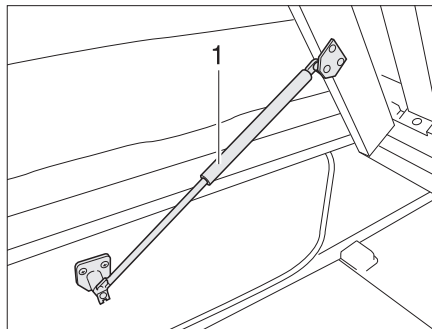

Fig. 56 Fixed bed
- Lift slatted frame. The gas-pressure springs (Fig. 56,1) hold the slatted frame open.